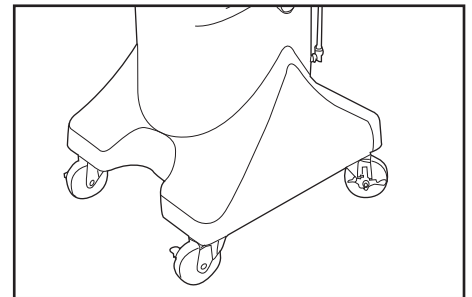

Fig. 1
1. Caster Assembly (See Fig. 1)
- a. Attach the casters to the drain using the bolts and washer provided. **(See Fig 1)**